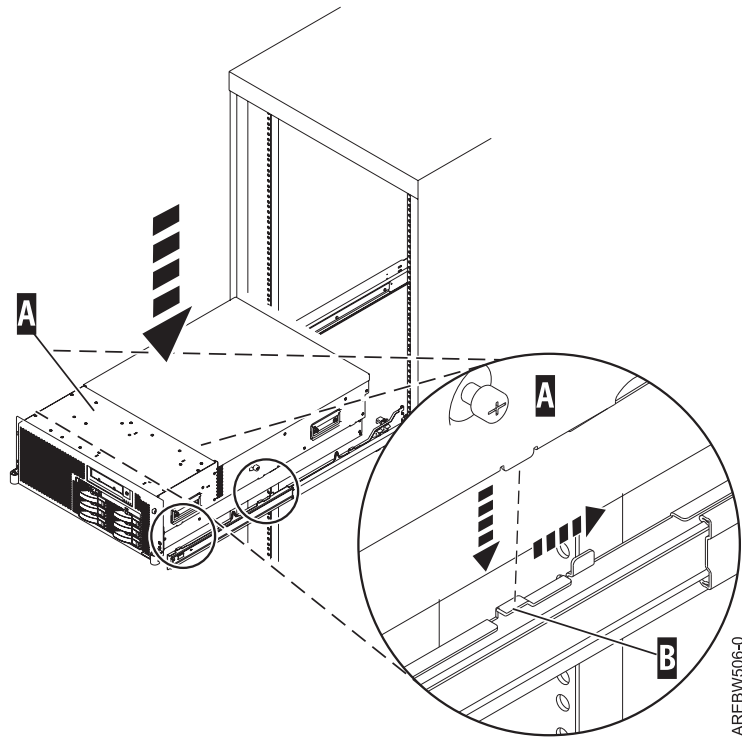

Figure 39. Place the system onto the rails
7. Extend the inner rails by pulling out the rails. They must be extended from the frame as the rails shown in Figure 39 on page 46.
10. Using three people, grasp the two handles located on each side of the system drawer and place the system onto the inner rail. Align tab **A** with slot **B** as indicated by the vertical dashed line shown in Figure 39 on page 46.